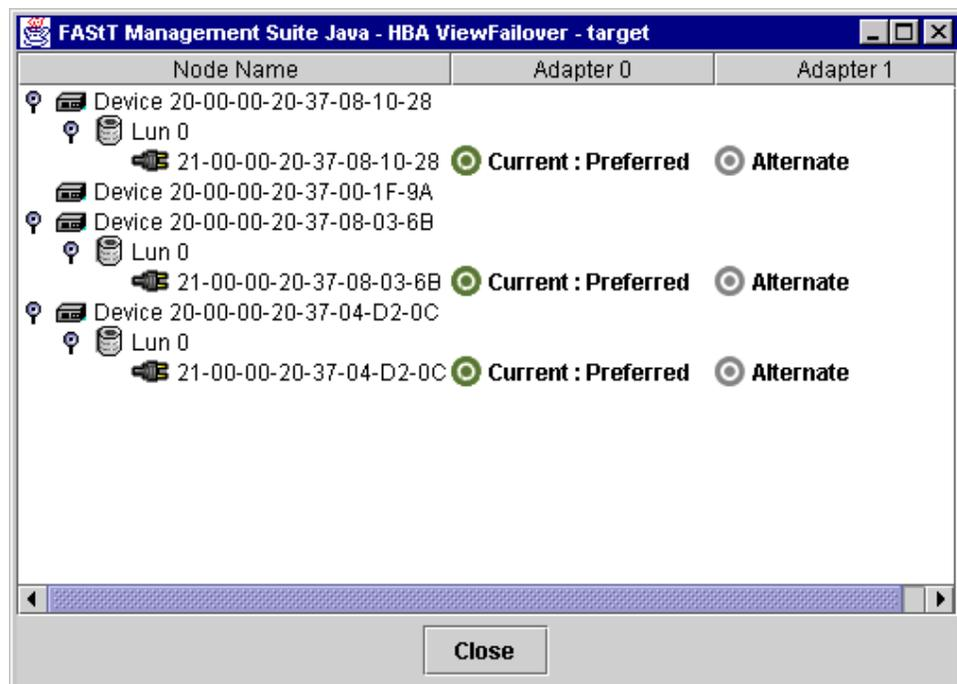

Figure 33. HBA View Failover window
- Right-click the host in the HBA tree. From the pop-up menu, click **Current Path**. The HBA View Failover window displays (see Figure 33).